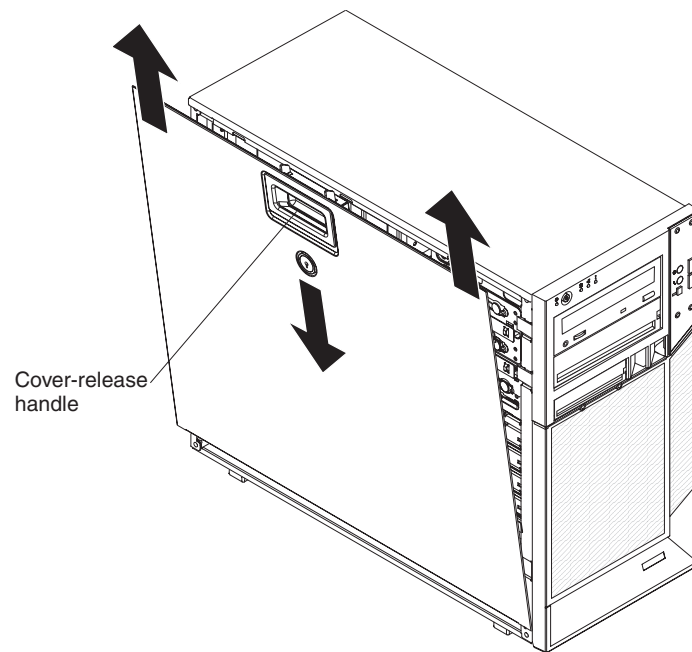

Figure 10. Removing the side cover
5. Press down on the cover-release handle; then, pull the cover straight up (see Figure 10). Lift the side cover off the computer and set it aside.